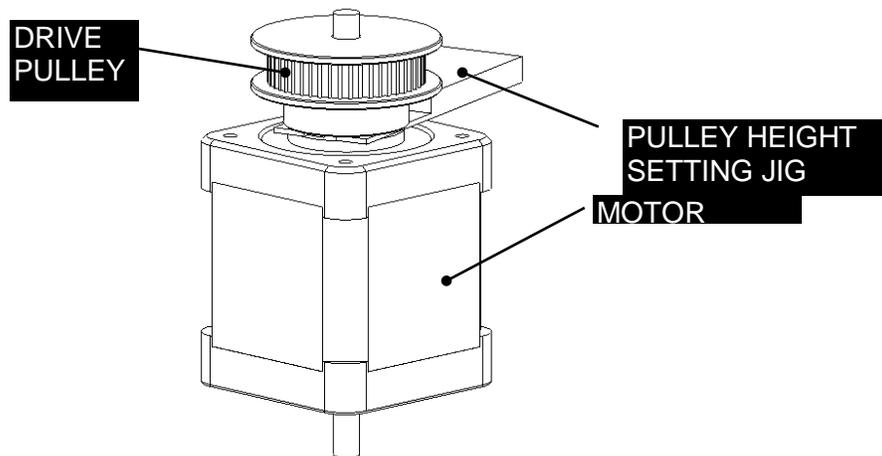

Figure 9-17: Installing the Drive Pulley
1. Attach the 48 Tooth Drive Pulley to the long shaft of the X Motor with the Pulley Height Setting Fixture (DS2FIX004) using two M4x6 Set Screws and Loctite 222 (Figure 9-17).